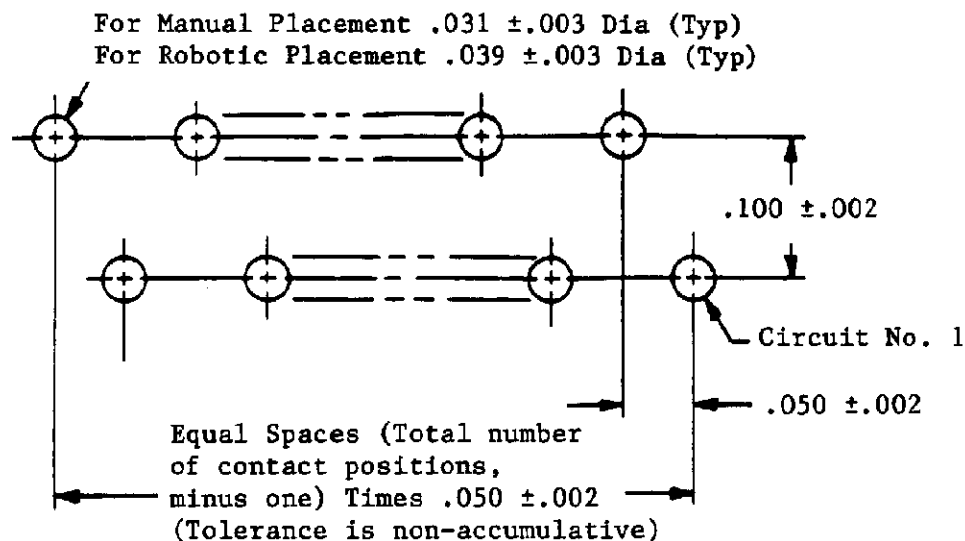

Fig. 3 PC Board Layout
4.2. Recommended printed circuit board hole layout shall be as indicated in Figure 3.